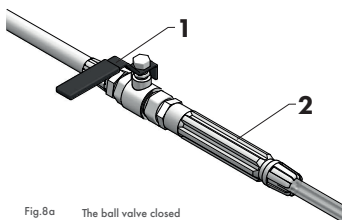

Fig.8a The ball valve closed
The ball valve (fig. 8a/pos. 1) mounted in the handle (fig. 8a/pos. 2) has several functions. It acts as a valve, i.e. opens and closes the flow of the spray liquid. It acts as flow regulator. It can also ensure the steady flow of spray liquid - continuous spraying